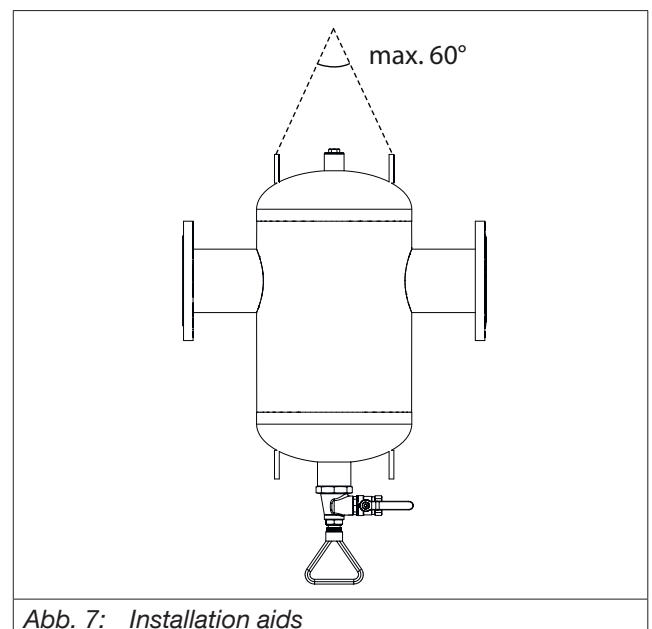

Abb. 7: Installation aids
- The eyelets on the sediment separator are exclusively intended as installation aids for lifting (see Abb. 2 and Abb. 7).